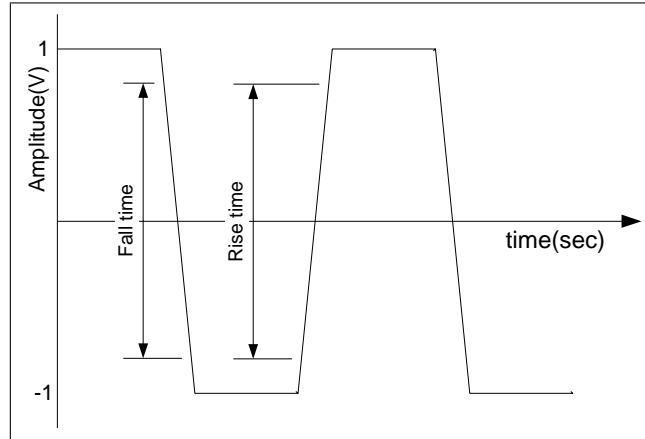

Fig. 1 Time domain of 100kHz, amplitude 1 volt, rise time 20nsec. squarewave
1. **Fourier series of a real squarewave-** Suppose you need to measure a clock signal of 100 kHz, amplitude 1 volt, with 20ns edge speeds (10% to 90% rising time see Fig. 1). A frequently asked question, is what is the minimum bandwidth of an oscilloscope I need to perform a reliable measurement.